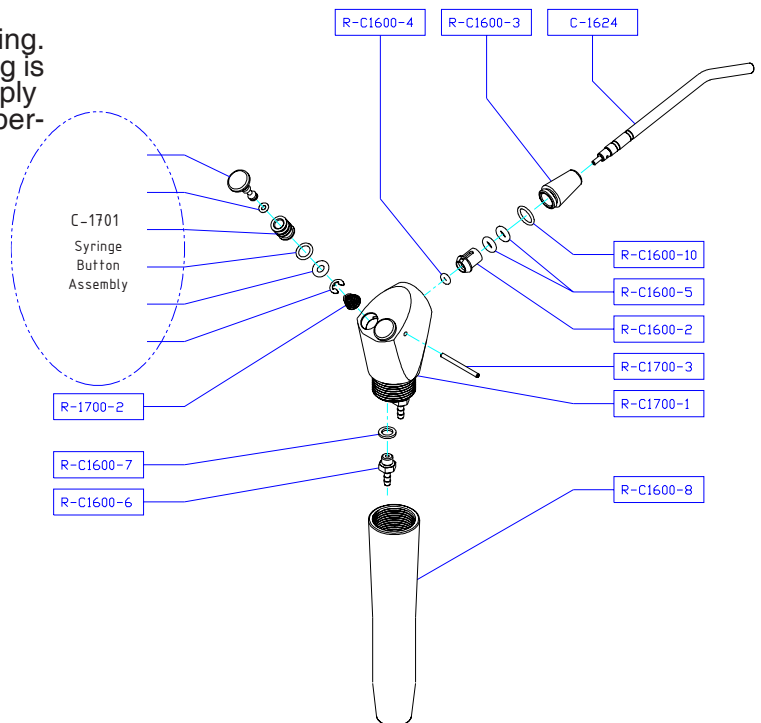

Figure 7. Syringe.
2. Replace the tip by inserting a new one into the tip socket, and firmly pushing into place until you feel it softly "pop" into place. To ensure it has been fully inserted, the uppermost small groove on the tip shank must be just visible over the end of the socket. See Figure 7.
Solution: Replace the button assembly # C-1701 (See figure 7). Turn water and air supply off. Depress air and water buttons on Syringe to relieve residual pressure. Hold both buttons down and use a paperclip to push cross pin out of syringe head. Gently remove button from head, being careful not to lose conical spring beneath. To install new button, ensure that conical spring is seated with the small end pointing up. Gently push into place and hold both buttons down firmly while re-inserting cross-pin.
Solution: Ensure tip is properly and fully inserted. If so, replace O-ring #R-C16004 (See Figure 7). Twist conical tip socket assembly (R-C21600-3) off of syringe head to access this O-ring. When re-installing tip socket assembly, hand tighten only. If tip cannot be fully inserted, then socket is too tight.